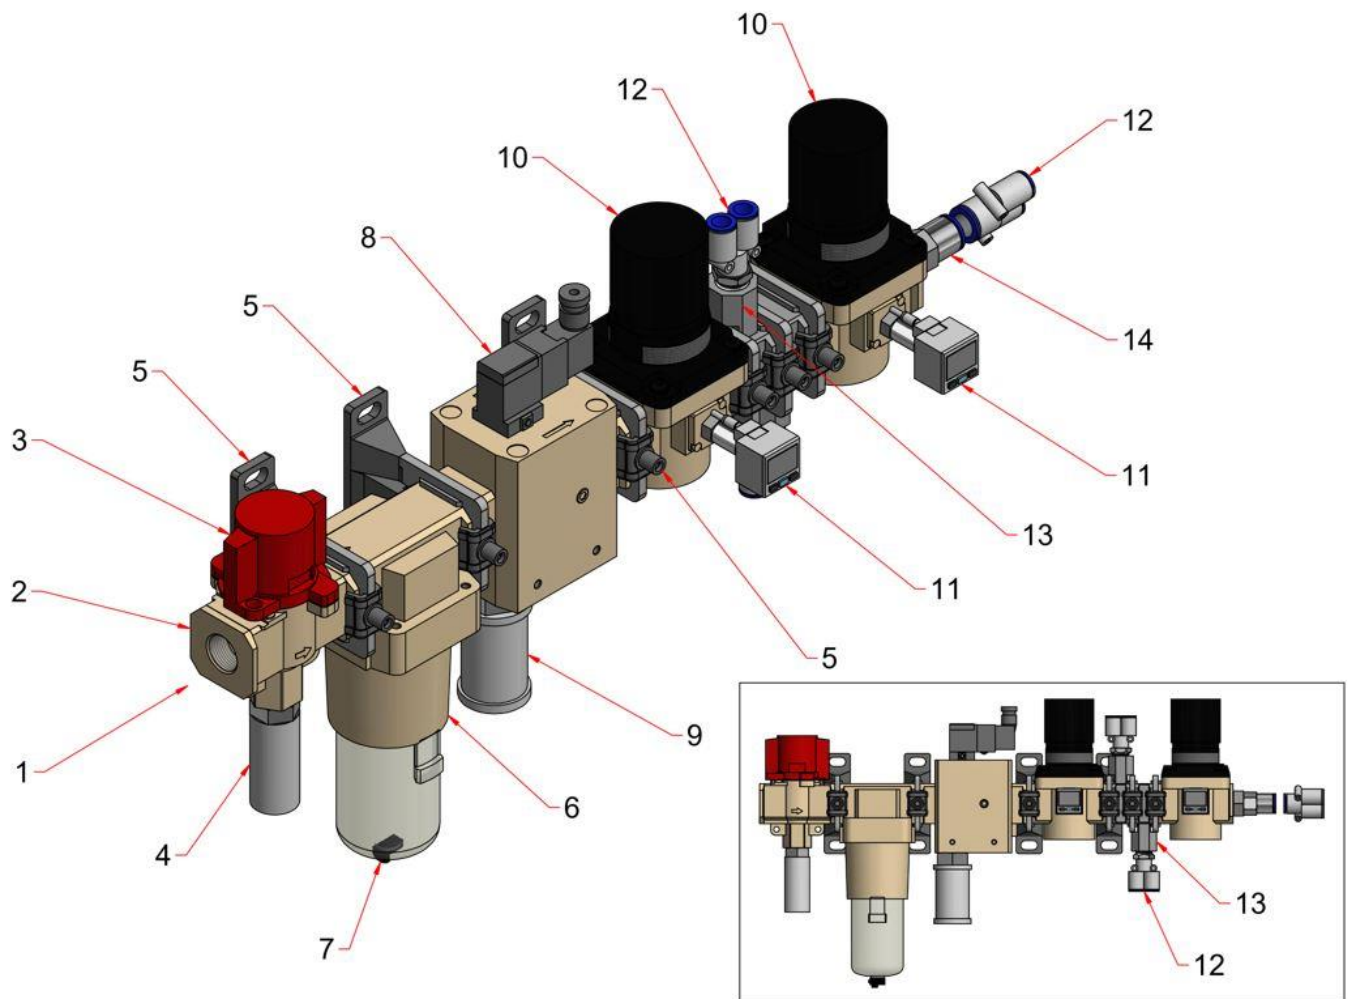

Figure 5, Valve/Filter/Regulator/Dump assembly
Table 8, Valve/Filter/Regulator/Dump parts (see Figure 5)
In an emergency; when disconnecting the air supply; or when performing any maintenance, the air must be dumped from the system. Dump any air in the system using the dump valve (see Figure 5, item 8).